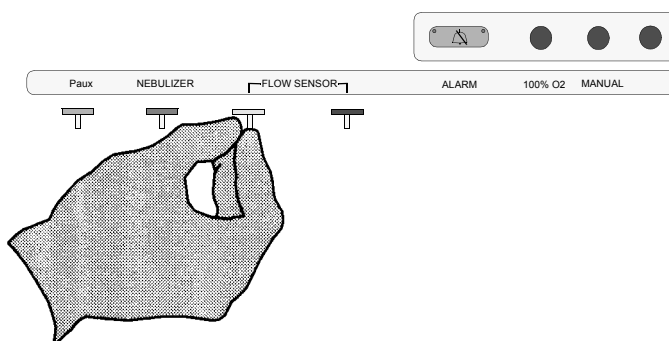

Figure 9-27. Sealing the silver Flow Sensor connector
1. Seal the silver Flow Sensor connector with a finger. (Figure 9-27.) 3. Seal the blue (patient side) Flow Sensor connector with a finger.	2. Ensure that dP Flow Sensor alternates every five seconds between the following: <ul style="list-style-type: none"> • A value in the range -40 to 40 • A value in the range 5040 to 5200 4. Ensure that dP Flow Sensor alternates every five seconds between the following: <ul style="list-style-type: none"> • A value in the range -40 to 40 • A value in the range -5040 to -5200